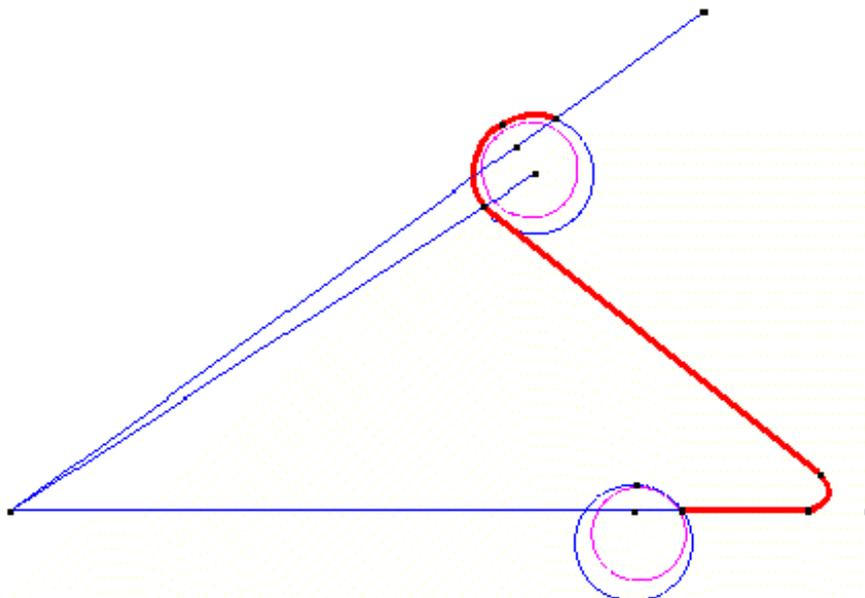

Figure 14. Lines to be selected
- 2 . In the **Sent To** menu of the **Layers** window, choose **Lines** in order to select the lines to be translated. Select only the lines that form the profile (Figure 14). To conclude the selection process, press the **ESC** key or click **Finish** in the **Layers** window.